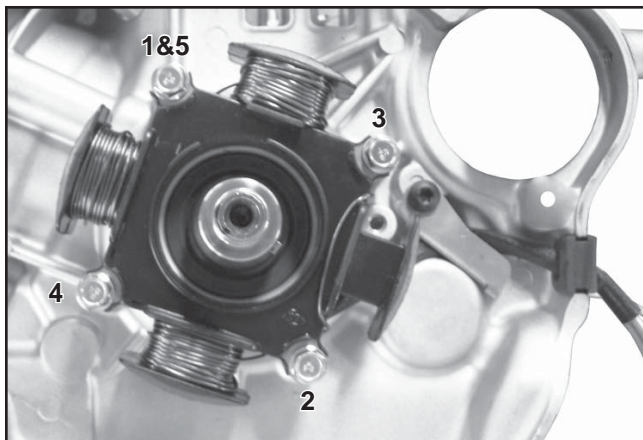

Figure 11-33. Stator Screws Torque Sequence.
2. Install and torque the four hex flange screws to **10 N·m (89 in. lb.)** in the sequence of 1, 2, 3, 4 and then torque 1 again. See Figure 11-33.